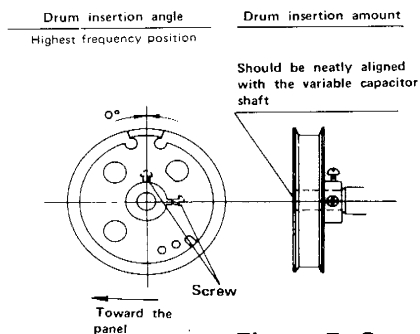

Figure 5-3
2. Insert the drum into the variable capacitor shaft in a such a way as to provide no inserting angle deviation. (See Fig. 5-3.)